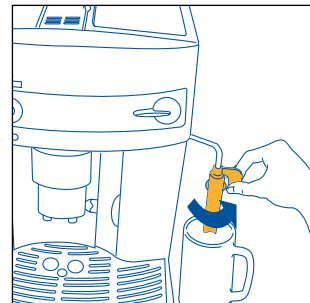
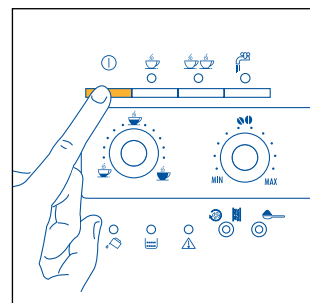
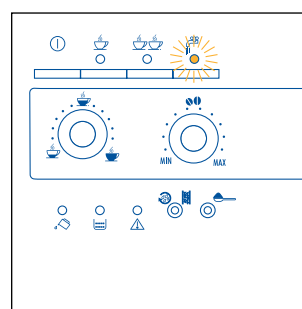

Fig.3
Fig.4
Fig.22
2. Move the milk frother towards the outside and place a cup underneath (Fig.3). Then turn the machine on by pressing the  button (Fig.4).
- turn the milk frother towards the outside of the machine (Fig. 3).
- Position a container underneath the milk frother (Fig. 3).
- Place an empty recipient under the cappuccino maker (fig. 3). Turn the steam knob a half turn anticlockwise as far as it will go (the light flashes fig. 22). Run off the steam mixed with water for a few seconds until only steam is given off.